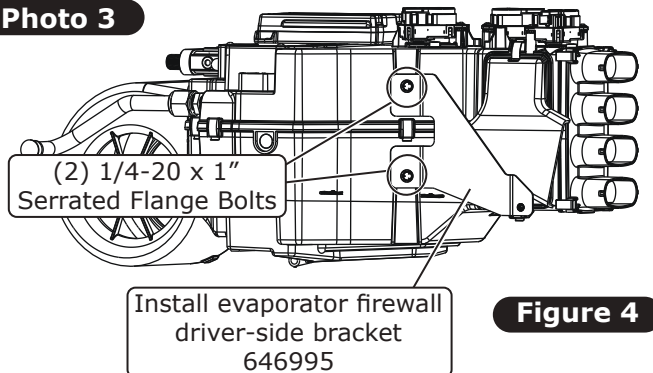

Figure 4
6. Install the driver-side evaporator bracket using (2) 1/4-20 x 1" serrated flange bolts (See Figure 4, below).